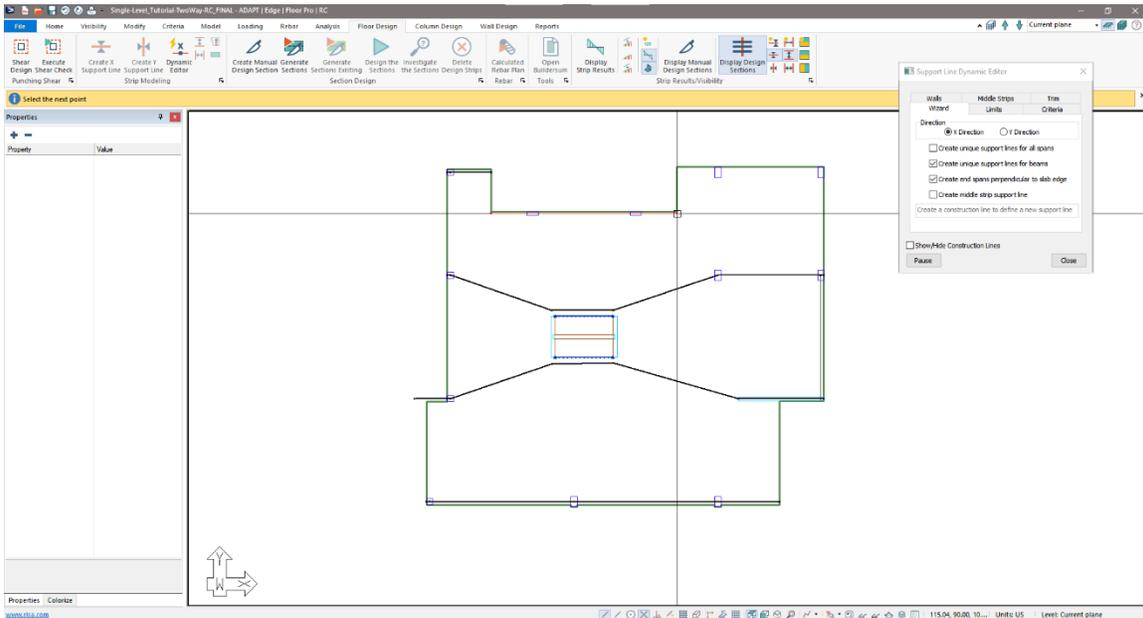

Figure 6-14
- Move your mouse to the right to the location shown in **FIGURE 6-14**.